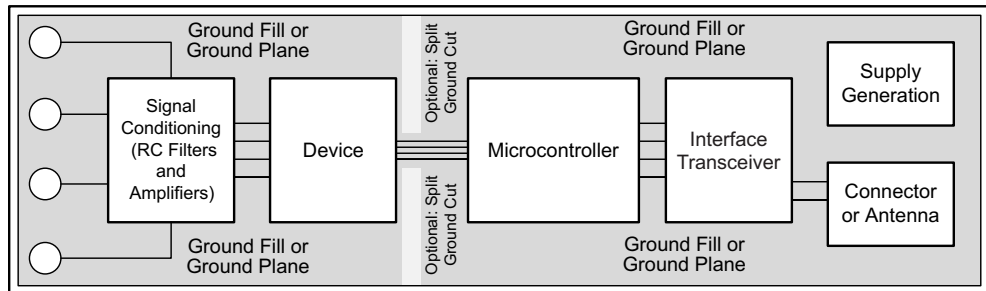

Figure 28. System Component Placement
Employ best design practices when laying out a printed-circuit board (PCB) for both analog and digital components. For optimal performance, separate the analog components such as ADCs, amplifiers, references, digital-to-analog converters (DACs), and analog MUXs from digital components such as microcontrollers, complex programmable logic devices (CPLDs), field-programmable gate arrays (FPGAs), radio frequency (RF) transceivers, universal serial bus (USB) transceivers, and switching regulators. Figure 28 shows an example of good component placement. Although Figure 28 provides a good example of component placement, the best placement for each application is unique to the geometries, components, and PCB fabrication capabilities. That is, there is no single layout that is perfect for every design and careful consideration must always be used when designing with any analog component.